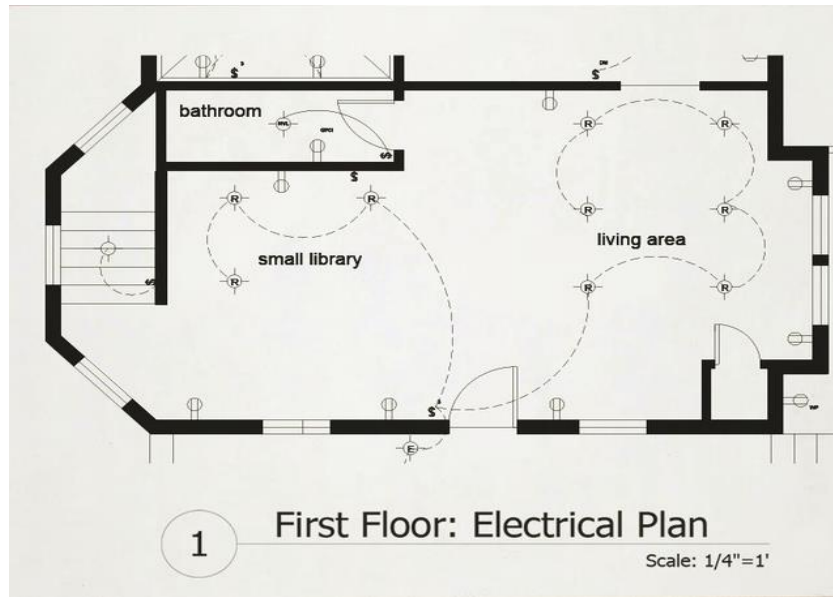

Fig Q4
- b) Read the Electrical Plan Fig Q4 below and answer questions that follow: